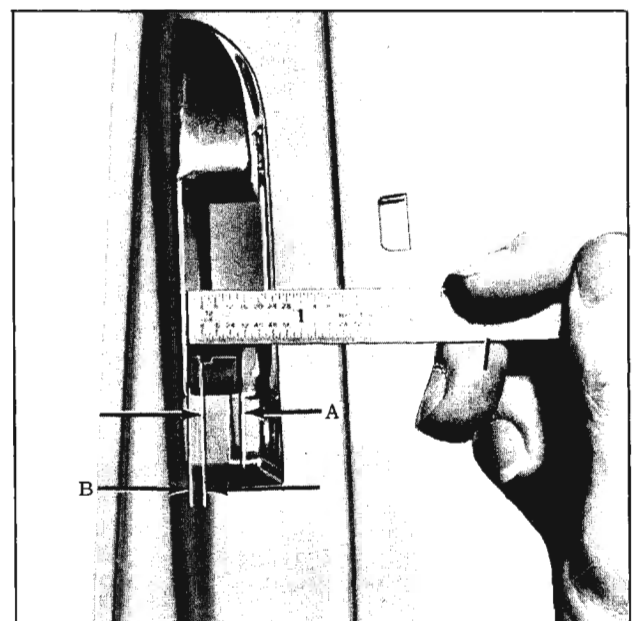

Fig. 16-240 Door Lock Striker Engagement Check
2. To determine if door lock striker emergency spacers are required, apply modeling clay or body caulking compound in door lock striker notch where lock extension engages, and then close door to form a measurable impression in clay or caulking compound as shown in Fig. 16-240.